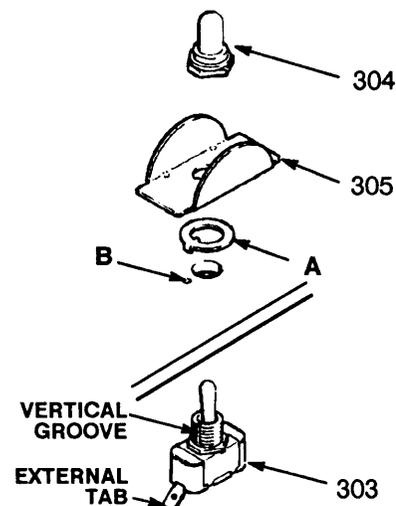

Fig 16
**NOTE:** See Fig 16 except where noted.